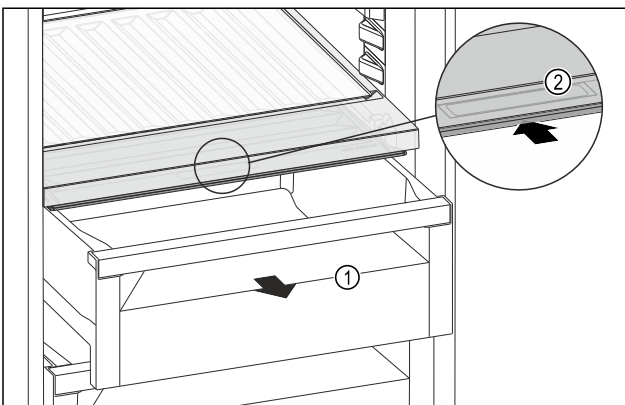

Fig. 147
- ▶ Pull out the drawer Fig. 147 (1).
- ▶ Grasp the recessed grip Fig. 147 (2) on the compartment lid and push the compartment lid backwards at the same time.